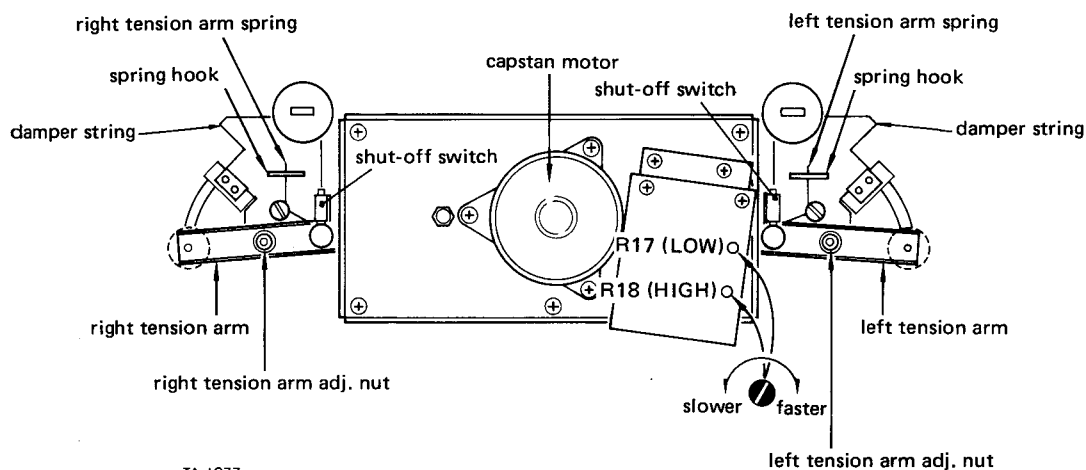

Fig. 2-9 Tension arm height, tension arm force, damper function, and tape speed
3. Stop left (right) guide roller's rotation by hand. Adjust by turning the left (right) tension arm adjusting nut (refer Fig. 2-9) so that the tape moves in the center of the guide roller.
3. Play the tape. Adjust R18 (see Fig. 2-9) for a reading of 3,000 Hz $\pm$ 5 Hz.